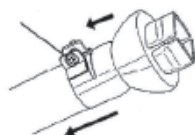

Fig. 2
- Loosen the nozzle mounting screw, attach the nozzle on heat gun then screw it. Show as the figure 2